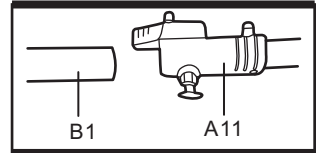
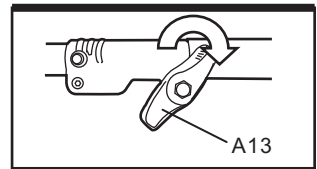

Fig. 3a
Fig. 3c
a) Align the shaft (B1) with the clamp (A11) so that the hole in the shaft (B1) is orientated to the locking pin. (See Fig. 3a)
c) Secure the connection by tightening the locking knob (A13) clockwise. (See Fig. 3c)
- 2) Fit the hedge trimmer shaft to the main unit. Do it as "Fit the grass trimmer shaft to the main unit", see fig.3a - fig3c.